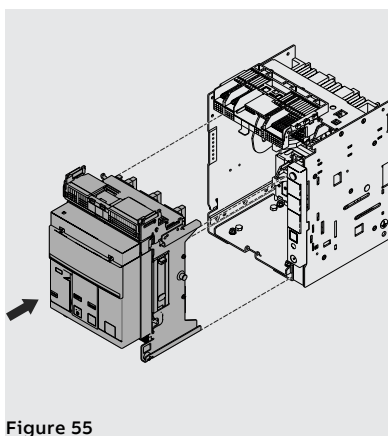
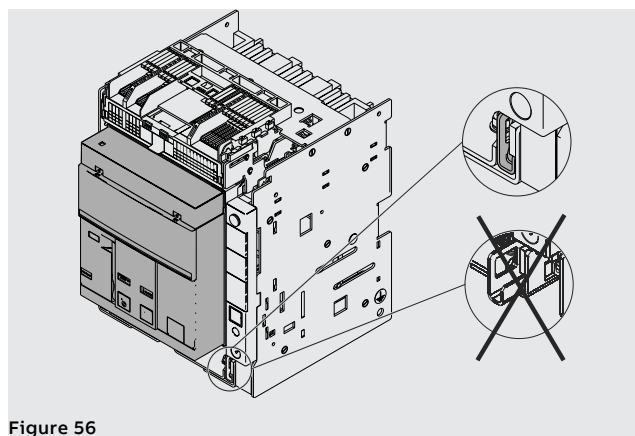

Figure 55
Figure 56
3. Position the moving part in the fixed part and push until it comes to a stop. See Figure 55 and Figure 56.